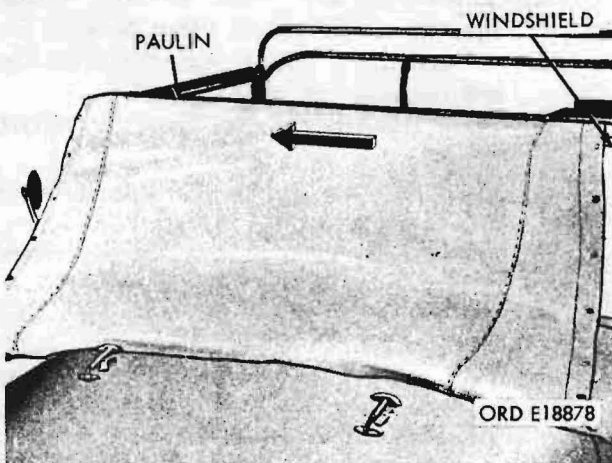

Figure 108. Removing paulin from windshield.
- (3) Throw the paulin over the windshield and pull the paulin edge from the channel in the windshield (fig. 108).